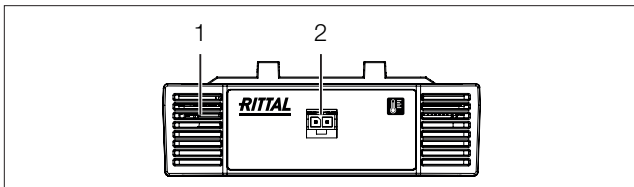
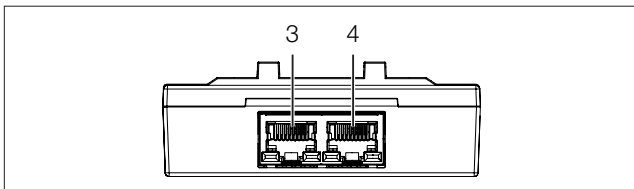

Fig. 14: Front of the temperature sensor
Fig. 15: Rear of the temperature sensor
A multi-LED for the status display is integrated into the front of the temperature sensor (fig. 14, item 1). Further LEDs are located at the rear on the CAN bus connection (fig. 15, item 3 and 4).